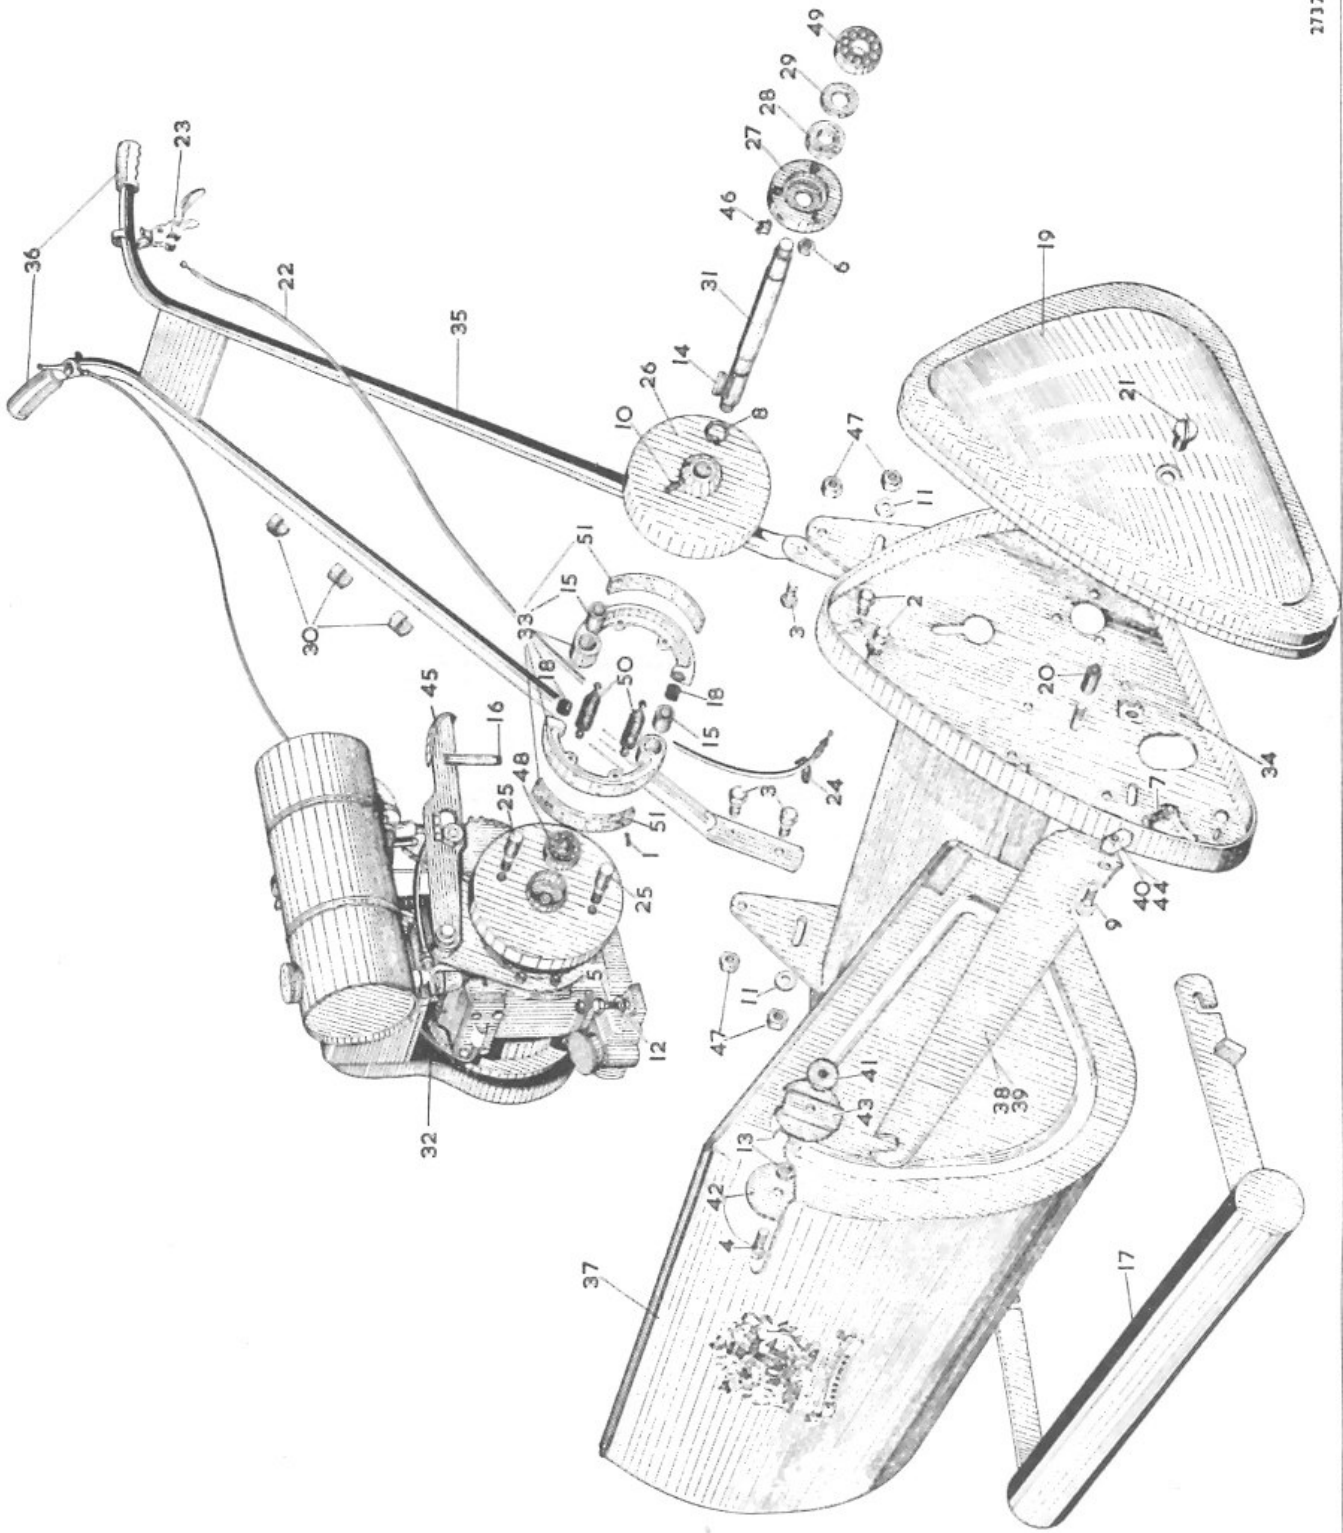

Fig. 6
GRASSBOX. If for any reason the grassbox support arms have been taken off it is essential that when they are replaced, they should be so aligned that the front edge of the grassbox is parallel to the machine. Provision is made for adjustment by slackening the cup headed bolts—(item 9, fig. 6) and moving the support arms to suit. Retighten the bolt securely after the adjustment has been made.